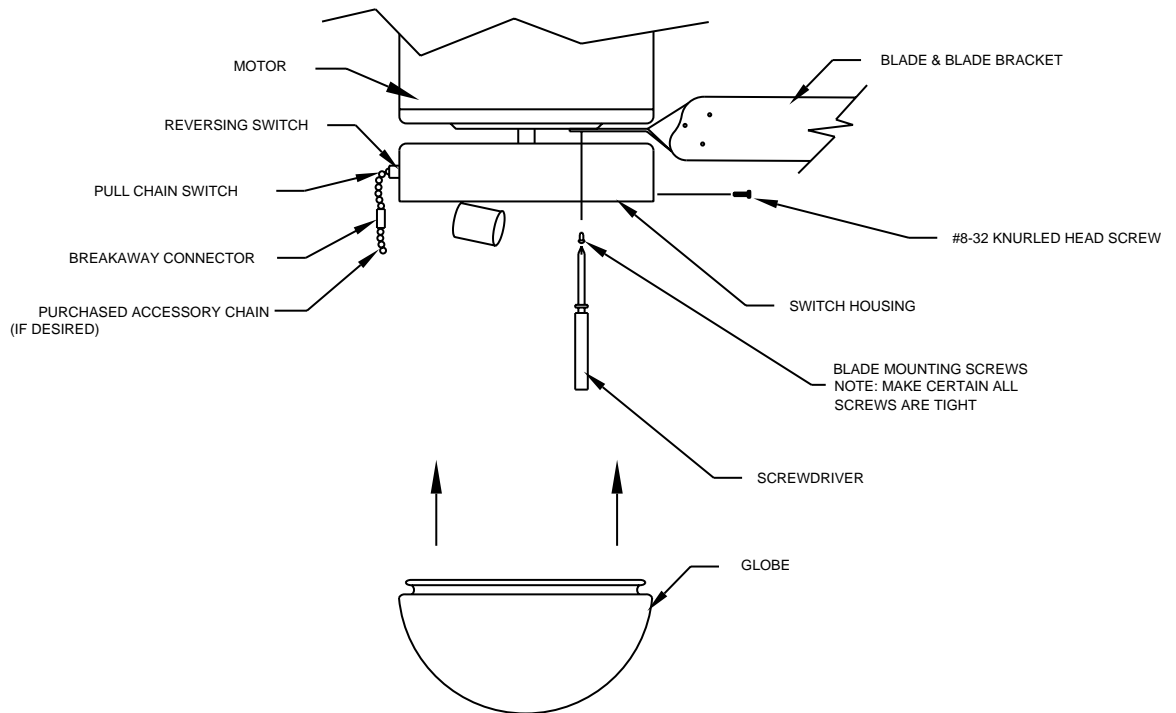

FIGURE 9.
- B. SWITCH OPERATES IN THIS SEQUENCE: "HIGH," "MEDIUM," "LOW," "OFF." PULL CHAIN SLOWLY TO OPERATE. ALSO, RELEASE THE CHAIN SLOWLY SO AS TO PREVENT CHAIN FROM FLYING UP INTO BLADES, POSSIBLY RESULTING IN DAMAGE TO BLADES OR PULL CHAIN. THE BREAKAWAY CONNECTOR IS DESIGNED TO SEPARATE FROM THE CHAIN AT A PREDETERMINED FORCE. IF THIS SEPARATION OCCURS, SIMPLY REINSERT THE CONNECTOR. IT CAN BE USED AGAIN AND AGAIN. SEE FIGURE 9.
- C. MOTOR IS ELECTRICALLY REVERSIBLE. WHEN FIRST OPERATING FAN, DETERMINE DIRECTION OF AIR FLOW. IF YOU WISH TO CHANGE DIRECTION, SWITCH FAN OFF AND ALLOW TO STOP. SLIDE REVERSING SWITCH TO THE OPPOSITE POSITION AND SWITCH FAN BACK ON. SEE FIGURE 9.